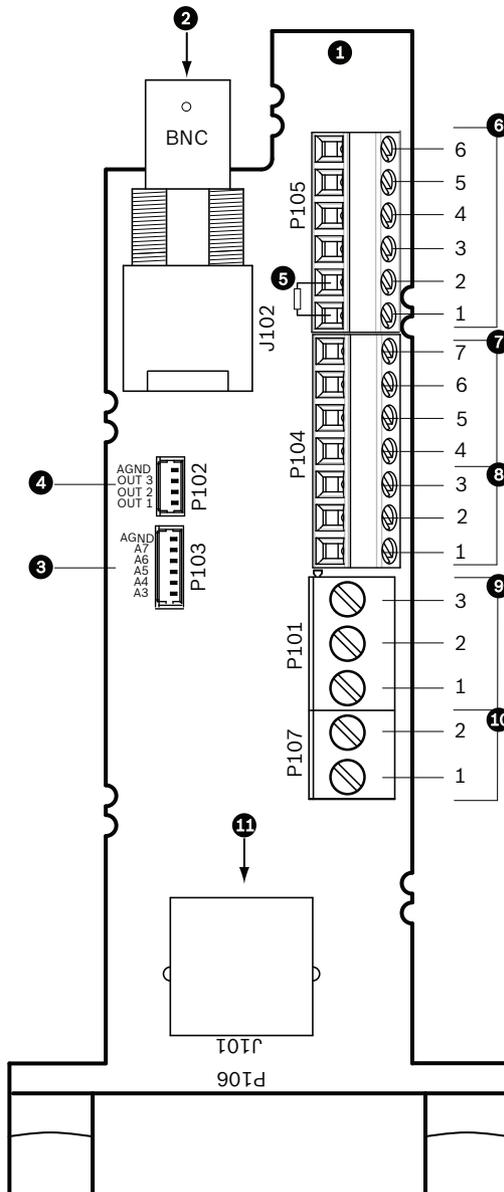

Figure 2.9 Pipe Interface Board Connections
To wire multiple AutoDomes in a series, or “daisy chaining,” you must apply a terminating resistor to the last dome of the series. The Interface Board is supplied with a 100 Ω terminating resistor located between the Biphase terminals C- and C+ (pins 1 and 2) of the P105 control connector (see item 5 in *Figure 2.9* above). Remove the resistor from all but the last AutoDome Interface Board. The maximum number of AutoDomes that can be daisy chained is four (4).
If using the RS485 protocol for control, switch the terminating resistor from the Biphase C+ and C- terminals to the RxD+ and TxD- terminals (pins 4 and 5) of the P105 control connector for the last dome (refer to item 6 in *Figure 2.9* above).
4. Attach the control data in/out wires to their respective terminals on the P105 connector on the Pipe Interface Board. Refer to *Figure 2.9, Page 20*, for an illustration of these connections.